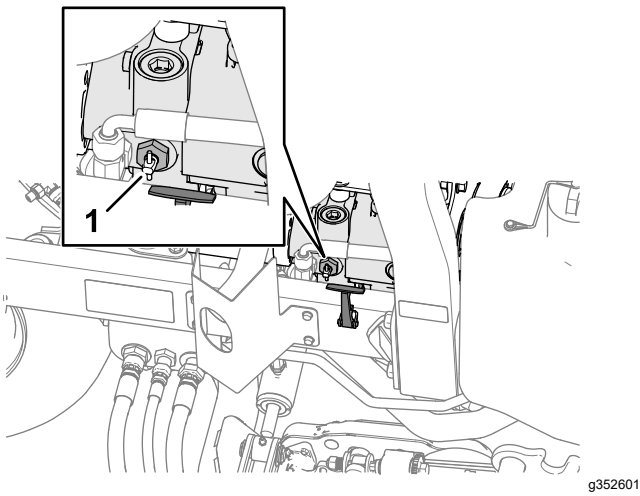

Figure 47
2. Near the right hood latch, rotate the bypass-valve handle on the pump 90° (Figure 47).